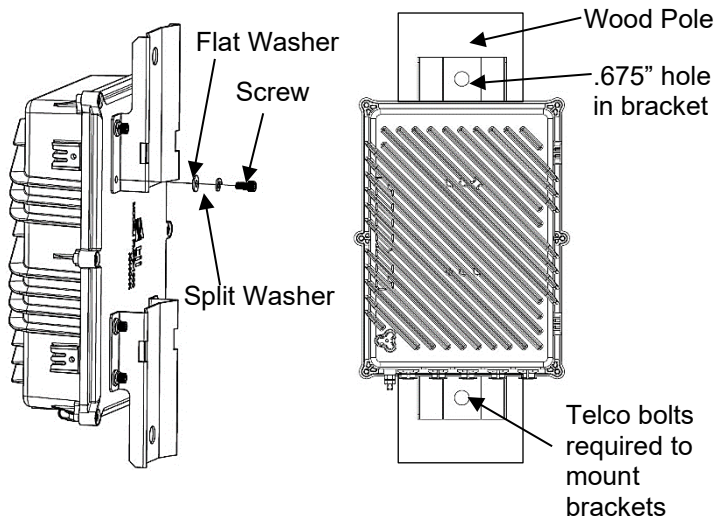

Figure 1
For Wood Pole Mounting (Figure 1)
2. Attach the brackets to the unit using the hardware supplied as shown in Figure 1. Tighten hardware using a 3/16 Allen wrench to 45in/lbs.